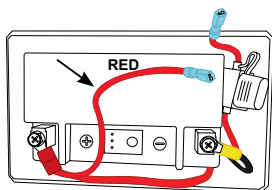

Fig. 5
- 4.** You will see one of the RED wires you disconnected in Step 3 is routed under the black wire connected to the battery. Reroute this wire out from under the black wire and allow it to go directly over the top of the battery (FIG. 5).